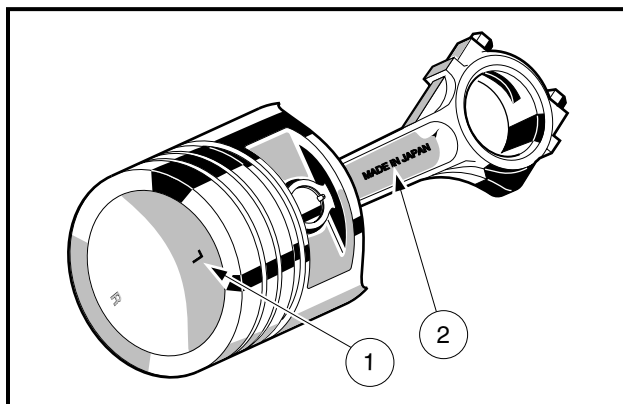
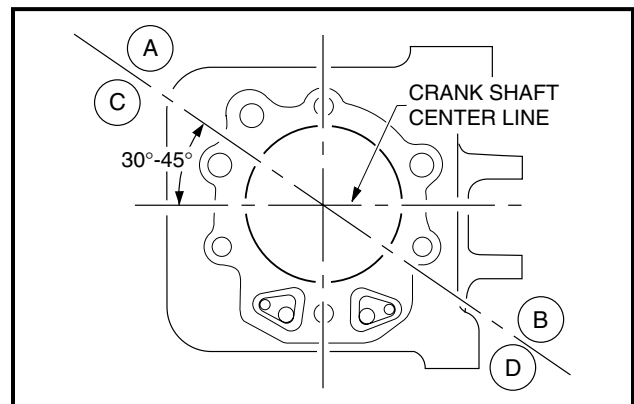

Figure 3-89 Piston Head and Connecting Rod Alignment
Figure 3-90 Piston Ring Gap Alignment
3. If the link rod was removed from the PTO side of the crankshaft, support the crankweb as shown, slide the link rod onto the crankshaft, and install the key. Press the spur gear and helical gear onto the crankshaft (**Figure 3-89, Page 3-41** and **Figure 3-90, Page 3-41**). See following **CAUTION** and **NOTE**.
NOTE: Make sure the chamfered inside diameters of the spur gear and helical gear are oriented downward on the crankshaft as shown (**Figure 3-89, Page 3-41**).